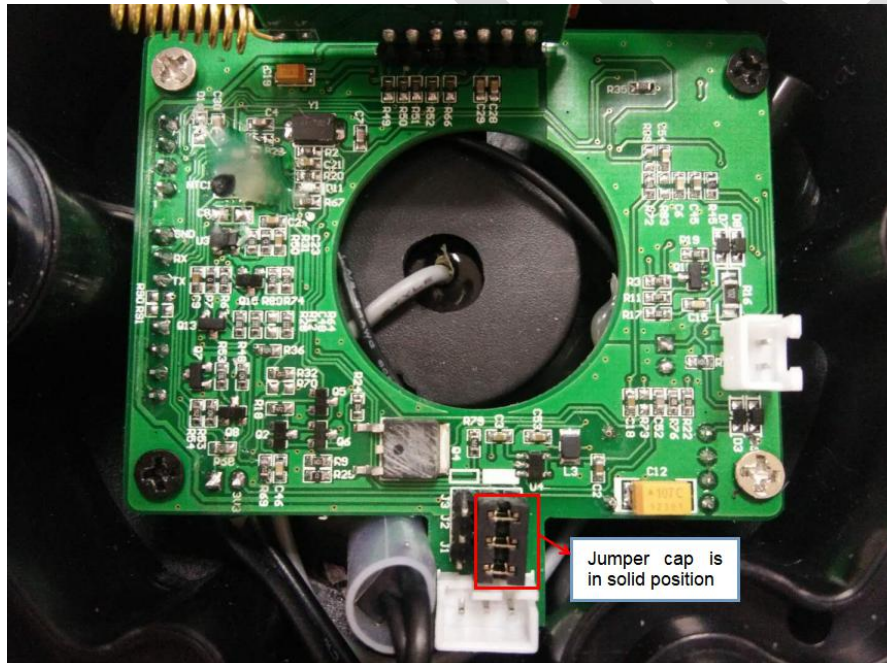

Figure7.4
- Confirm that the jumper cap is in the solid position (jumper cap defaults to solid position), as shown in figure7.4.